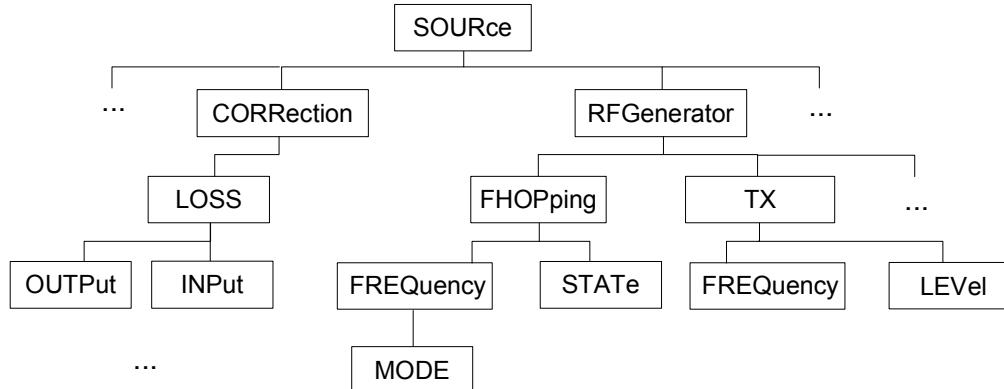

Fig. 5-2 Example for the tree structure of the SCPI command systems; the SOURce system
**Hierarchy:** Device-specific commands are of hierarchical structure (see *Fig. 5-2*). The different levels are represented by combined headers. Headers of the highest level (root level) have only one key word. This key word denotes a complete command system.